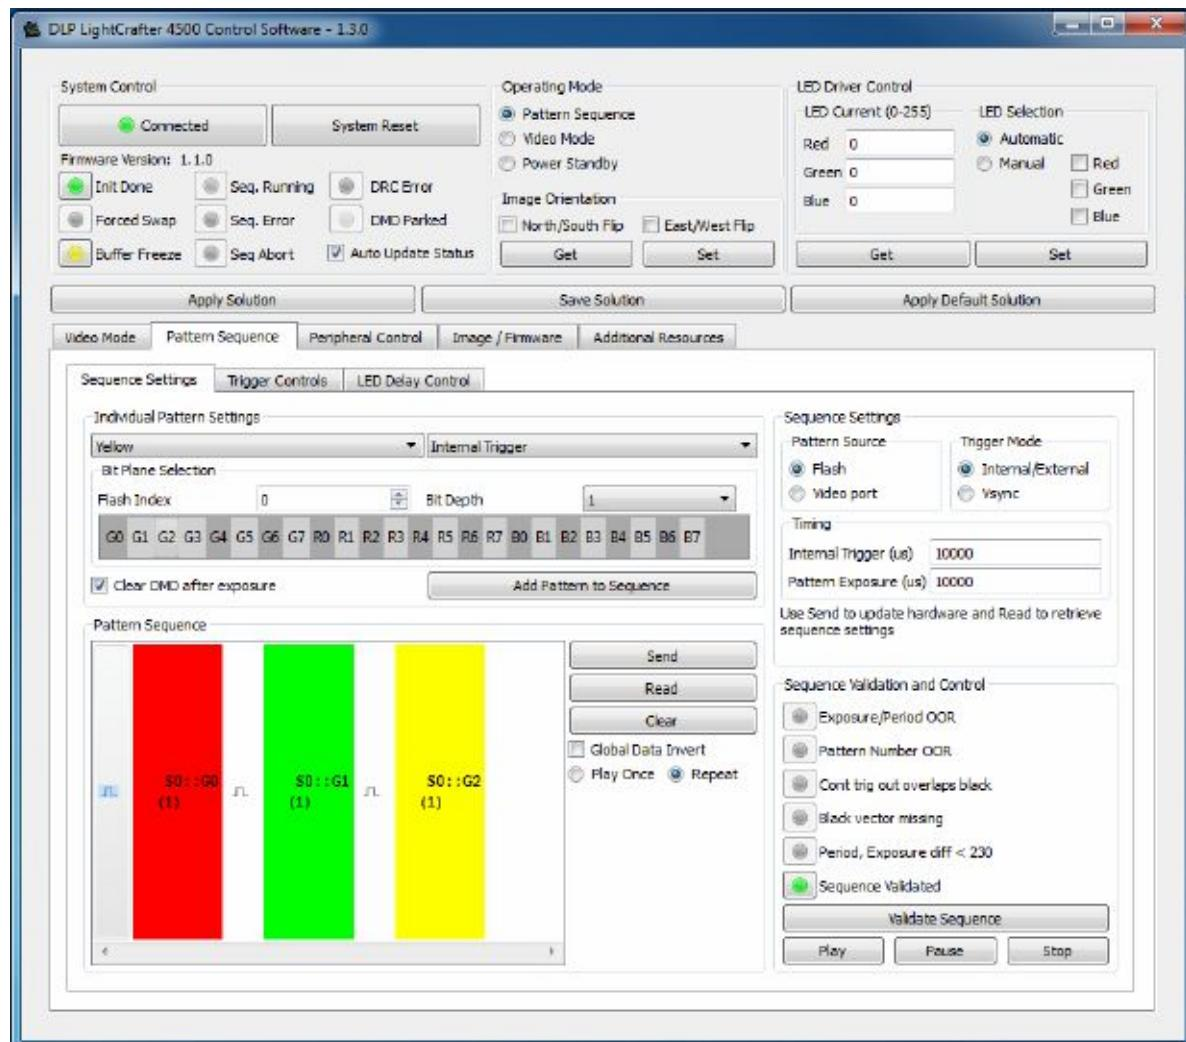

Figure 3-5. PRO4500 GUI – Pattern Sequence Mode
A pattern sequence is composed of several patterns loaded from flash memory or streamed through the 24-bit RGB video port. Each individual pattern can have a specific set of LEDs illuminating it, a particular bit-depth, and an internal or external trigger. The Sequence Settings subtab lets the user define and set all the Individual Pattern Settings. The Trigger Controls subtab and the LED Delay Control subtab set the trigger and LED enable edge timings, respectively. Figure 3-5 shows the PRO4500 GUI with the Pattern Sequence tab selected.
5. If the patterns sequence must be played once, set Play Once in Figure 3-5. This setting will play the
The Pattern Sequence section shows the pattern sequence as a set of colored rectangles. The color corresponds to the LEDs used. The entries on the rectangles represent the image source, the bit-plane, and the bit-depth as follows: S0::G0 (1) indicates flash location 0, bit-plane = G0, bit-depth = 1. F2::G5 (3) indicates Frame 2, bit-plane = G5, bit-depth = 3. For example, in Figure 3-5, a pattern sequence of three patterns is displayed. Each pattern is triggered every 100 ms and exposed for 100 ms. The first pattern is a 1-bit green pattern using bit-plane G0 from flash location 0. The second pattern is a 1-bit blue pattern using bit-plane G1 from flash location 0. The third pattern is a 1-bit red pattern using bit-plane G2 from flash location 0.